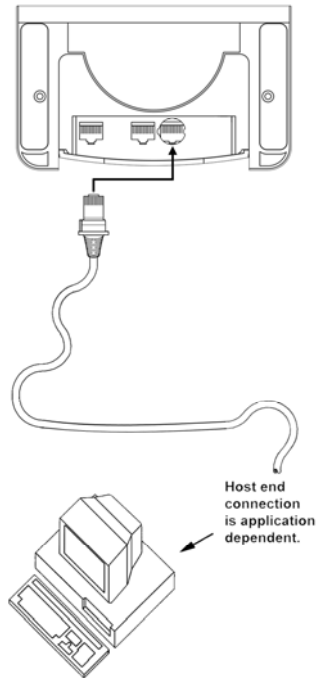

Figure 8. RS485 Interface
2. Connect the keyed cable to the 10-pin Multi-Interface jack. It is the only circular keyed jack located on the bottom of the 7820 (see figure 8).